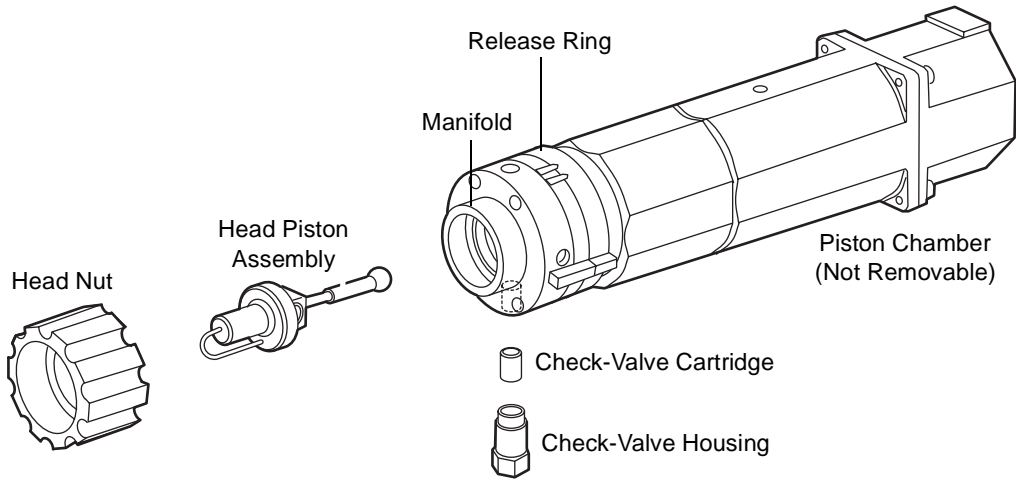

Figure 4-21 Piston Chamber Components
Figure 4-21 shows the head nut, head piston assembly, and check-valve components of a piston chamber.
4. Turn the release ring clockwise. Withdraw it (Figure 4-21), and click Next.